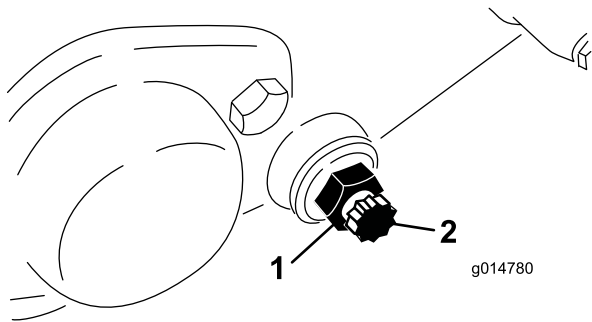

Figure 55
- On each side of the machine loosen the jam nut securing the bedbar bolt (Figure 55).
- Remove each bedbar bolt allowing the bedbar to be pulled downward and removed from the machine. Save the 2 nylon and 2 stamped steel washers on each end of the bedbar (Figure 55).